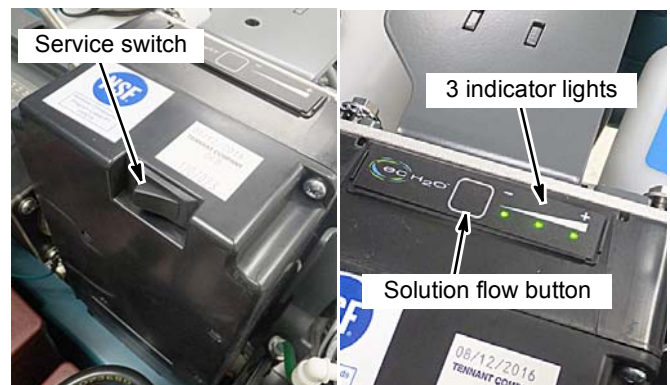

FIG. 140
- b. Press and hold the service switch, located on the ec-H2O module, for 10 seconds. After releasing service switch, the three solution flow indicator lights will begin to (ripple) move back and forth (Figure 140).
- c. Within 5 seconds after releasing the service switch, while the three indicator lights are moving back and forth, quickly press and release the solution flow button located on ec-H2O module (Figure 140).